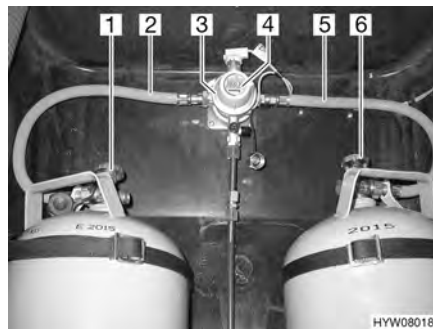
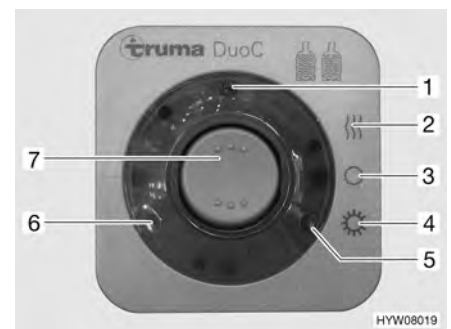

Fig. 92 DuoControl switching facility
Fig. 93 Operating unit
The DuoControl switching facility consists of a reversing valve (Fig. 92,3) and an operating unit (Fig. 93). The reversing valve is installed between the gas tubes (Fig. 92,2 and 5). The knob (Fig. 92,4) on the reversing valve is used to select which of the gas bottles is to be used as a primary bottle and which is to be used as a reserve bottle.
Only the electrical functions can be switched at the operating unit (Fig. 93). The regulator taps on the gas bottles (Fig. 92,1 and 6) must be opened manually.
The reversing valve provides a constant gas pressure, regardless of which gas bottle is being drawn upon. The two indicator lamps on the operating unit indicate the level of the primary bottle. When the green indicator lamp (Fig. 93,6) illuminates, the primary bottle is full. When the red indicator lamp (Fig. 93,5) illuminates, the primary bottle is empty. In this case, the reserve bottle is used for the gas supply.
- Open the regulator taps on the gas bottles (Fig. 92,1 and 6).
- Use the knob (Fig. 92,4) on the reversing valve (Fig. 92,3) to select the gas bottle which is to be the primary source of gas (primary bottle). Always turn the knob as far as it will go.
- Switch on the DuoControl switching facility at the operating unit (Fig. 93). To do so, set the rocker switch (Fig. 93,7) to winter operation "On and heating" (Fig. 93,2) or to summer operation "On" (Fig. 93,4). The reversing valve is now deaerated. The yellow indicator lamp (Fig. 93,1) illuminates if the winter operation has been selected and the regulator defroster is activated.
- Set the rocker switch (Fig. 93,7) to "O" (Fig. 93,3). The yellow indicator lamp (Fig. 93,1) goes out.
- Close the regulator taps on the gas bottles (Fig. 92,1 and 6).
Remote display The indicator lamps on the operating unit (Fig. 93,5 and 6) indicate in the vehicle interior whether the primary bottle is ready for operation.
Changing gas bottles If the green indicator lamp (Fig. 93,6) stops illuminating during operation and the red indicator lamp (Fig. 93,5) illuminates, the gas bottle selected as primary bottle is empty and needs to be changed. The reserve bottle continues supplying the gas appliances with gas.